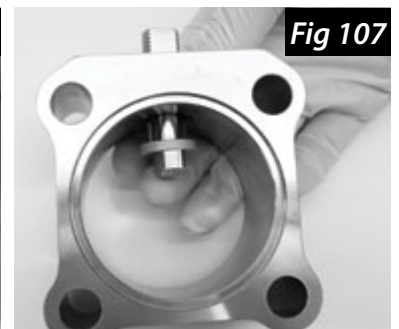

Fig 107
2. Insert the valve stem through the inside of the valve body (Fig 107).